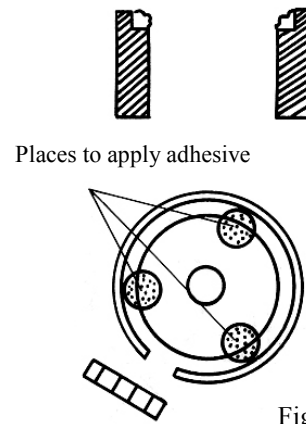

Fig 1
- 1 Remove grease or dust from the surface of the panel and the diaphragm (brass plate of the piezoelectric buzzer element). Apply adhesive onto about three places around the step as illustrated in Fig 1.